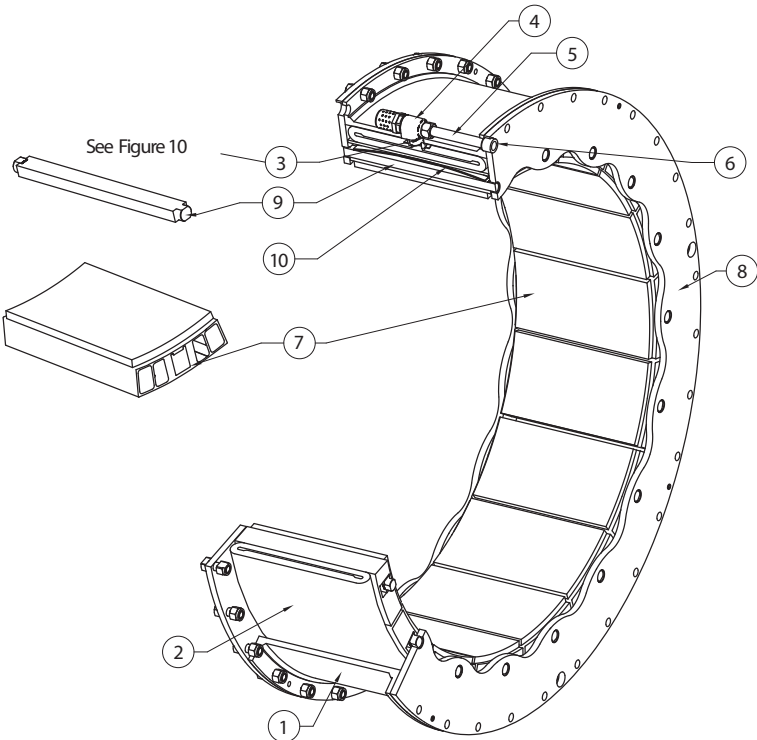

Figure 1
- 1.2.1 Referring to Figures 1, 2, 3 and 4, the neoprene and cord actuating tube is contained within a steel rim which is drilled for mounting to the driving component. As air pressure is applied to the air actuating tube, the tube inflates, forcing the friction shoe assemblies uniformly against the drum, which is attached to the driven component. The friction shoe assemblies, which consist of the special high coefficient friction pads bonded to aluminum backing plates, are guided by torque bars which are inserted into the element side plates. The torque path is from the driving shaft, through the element mounting component (typically an iron spider), through the element rim and side plates and the torque bars, backing plates and friction material. The torque is then transmitted through the friction couple to the driven shaft. When the specified applied air pressure is exhausted, release springs and centrifugal force assure immediate and positive disengagement.